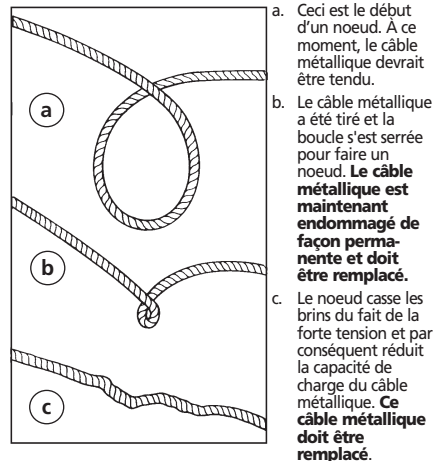

Figure 10
5. EMPÊCHEZ LES NOEUDS AVANT QU'ILS NE SE PRODUISENT (FIG. 10).